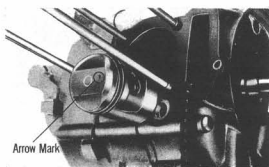

Fig. 35
1. When assembling the piston to the connecting rod, make sure that the arrow mark on the piston head is pointing down (Fig. 35)